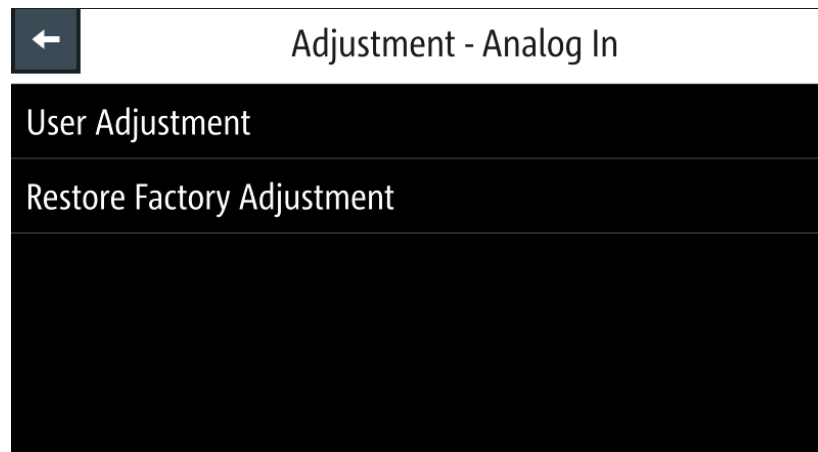

Figure 7-65: Adjustment -Analog In dialog
- To proceed analog in adjustment, select "User Adjustment" in Figure 7-65. The R&S NGP800 displays the "ANALOG IN ADJUSTMENT" wizard to guide the adjustment procedures.